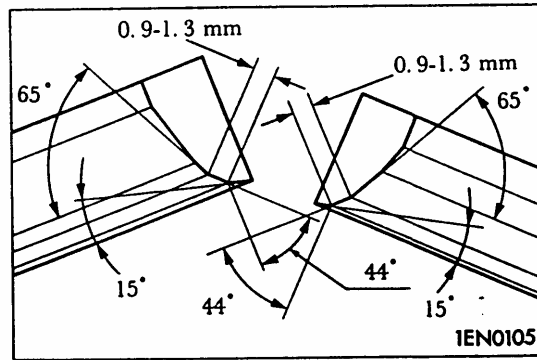

Fig.4-83
- (1) Before correcting the valve seat, check the clearance between the valve guide and valve. If necessary, replace the valve guide.
- (2) Using the appropriate special tool or seat grinder, correct the valve seat to achieve the specified seat width and angle.
- (3) After correcting the valve seat, lap the valve and valve seat using lapping compound. Then, check the valve stem projection (refer to 5. valve seats in inspection) , see Fig.4-83.